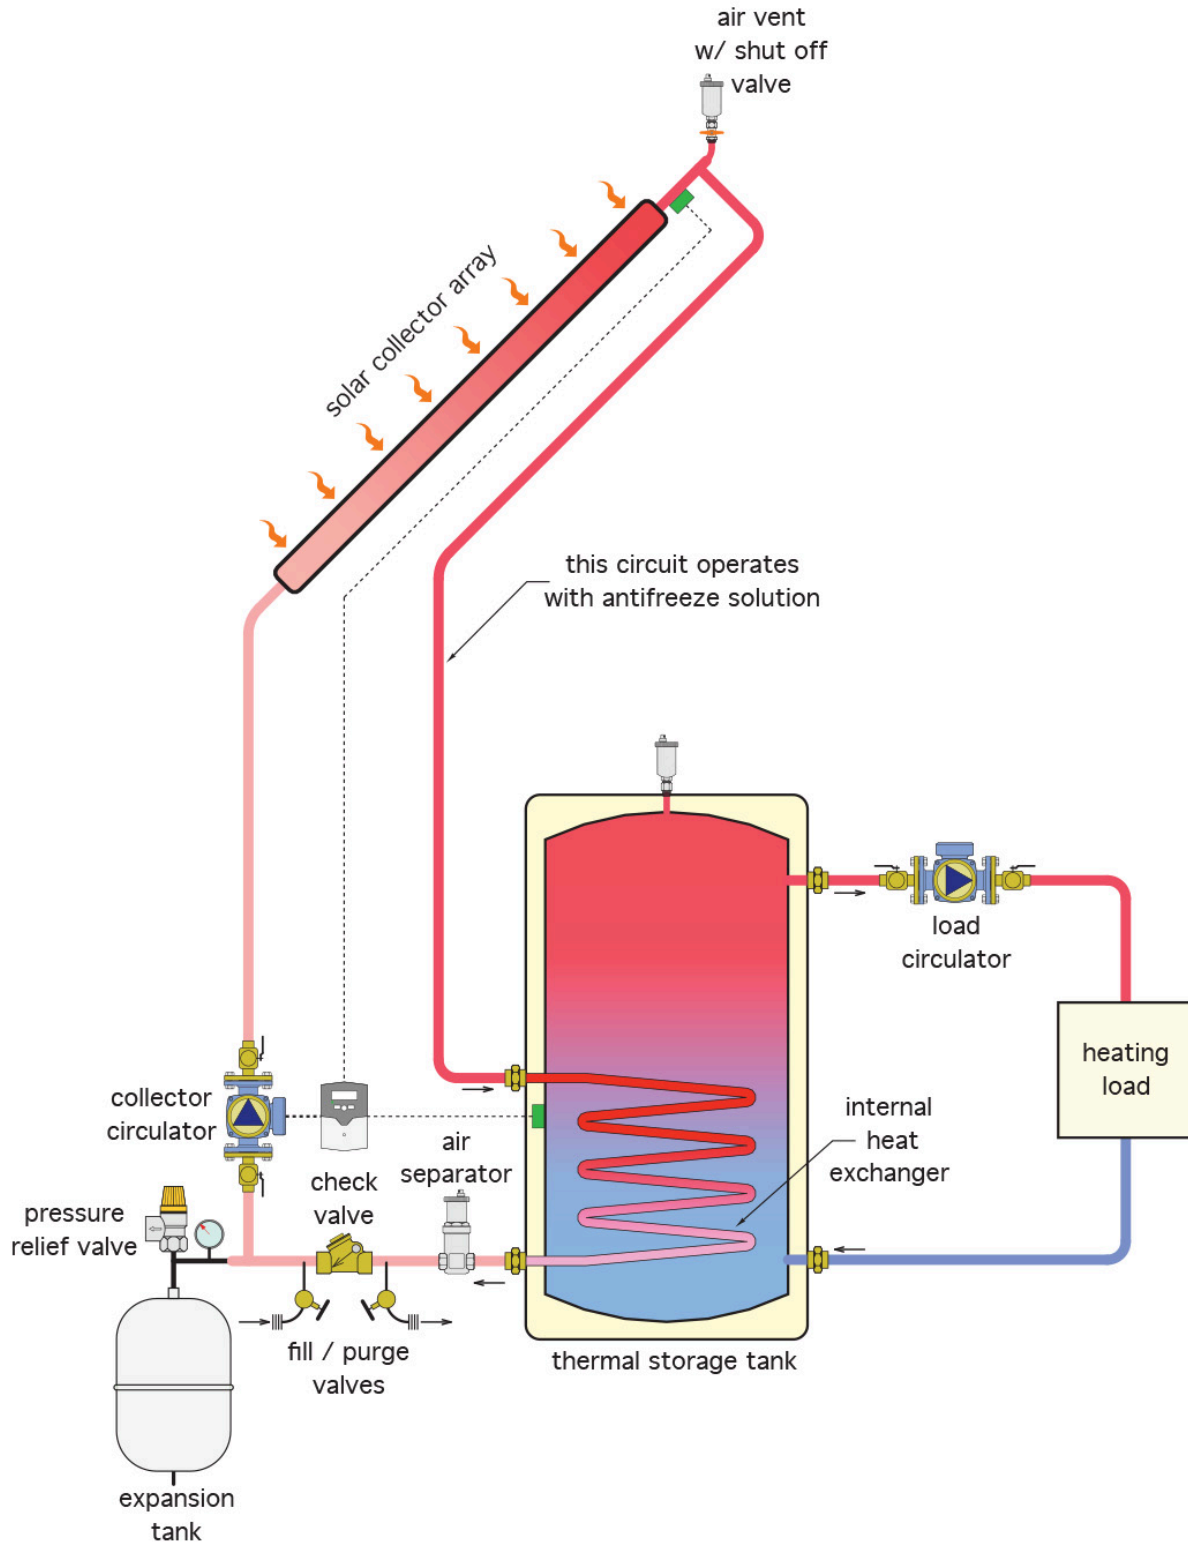

Figure 2 Closed-loop antifreeze system using storage tank as heat exchanger
- Figure 2 Passive solar DHW system © Caleffi Hydronic Solutions (<https://www.caleffi.com/usa/en-us>). Used with permission.
One option for freeze protection is to use antifreeze in the piping between the collector and storage tank. This is known as a closed-loop antifreeze system and is shown in Figure 2 below.